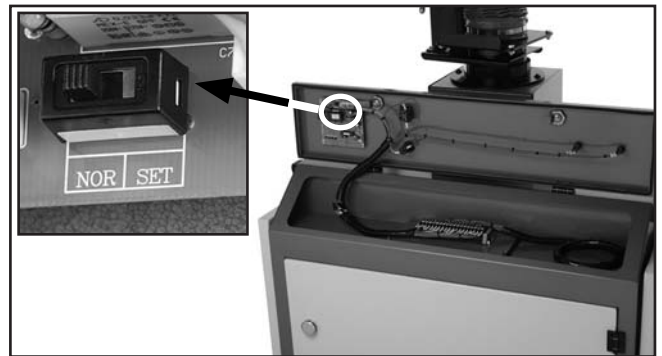

Figure 10. NOR/SET control.
3. Open the control panel door (**Figure 10**).
4. Slide the NOR/SET switch (**Figure 10**) to the SET position.